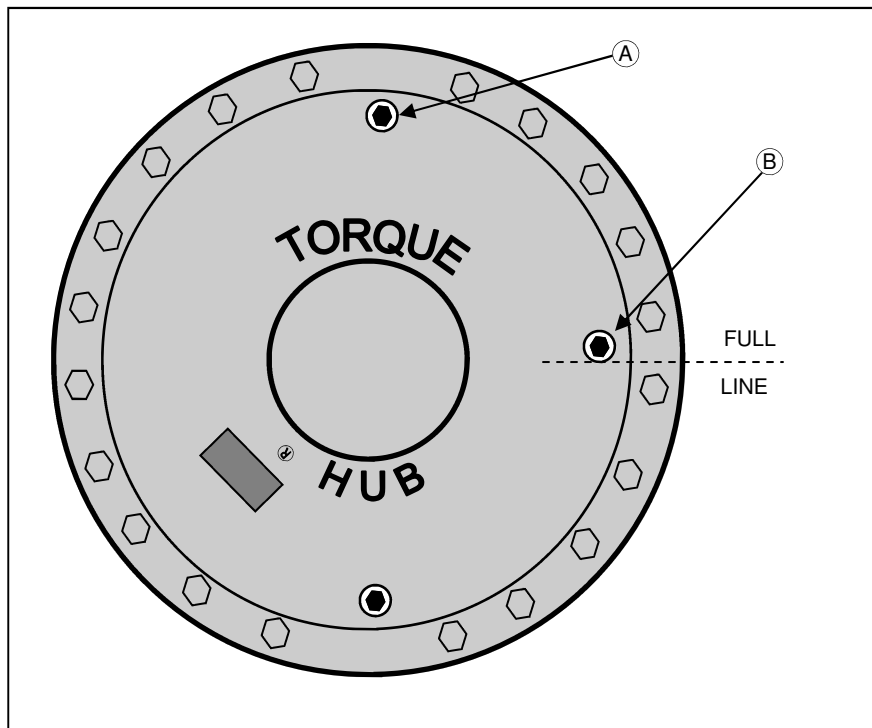

FIG 6.7-2
**OIL LEVEL**— Each wheel hub should maintain a level of half full at all times. Less than that would limit lubrication and over that would cause overheating and damage. To check the oil level position the hub so that there is a plug at the 12 O'clock position (fig. 6.7-2, item A) and the another at the 3 or 9 O'clock position (fig. 6.7-2, item B). Remove the lower plug (fig. 6.7-2, item B), if no oil comes out, the oil level is too low. Check the oil level every 100 hours.